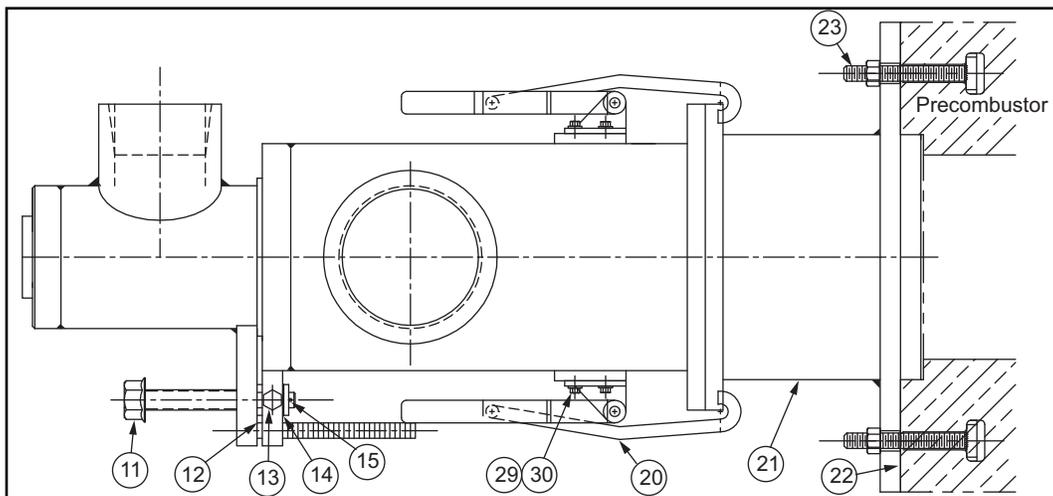

Figure 3.1 PrimeFire 100 exterior
**Adjustment (Figure 3.1)****Step 1**